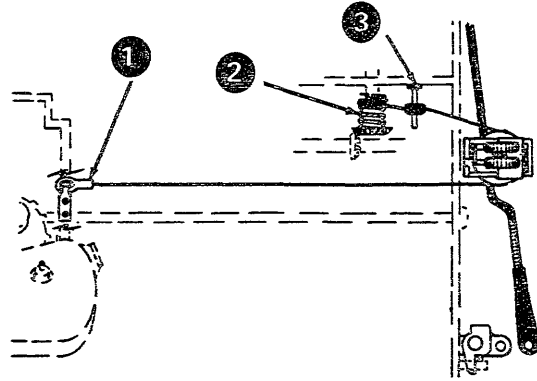

Figure 3-201. Escapement Cord
NOTE: A time-saving method of adjusting the transport cord pulley closer to the side frame is to tie a knot in the cord as close to the hook (see point 1, Figure 3-201) as possible.
2. The eccentric mounting stud (see point 3, Figure 3-201) for the front idler pulley should be set so that the pin is horizontal and above center on the eccentric. The pin will then be angled slightly toward the left.